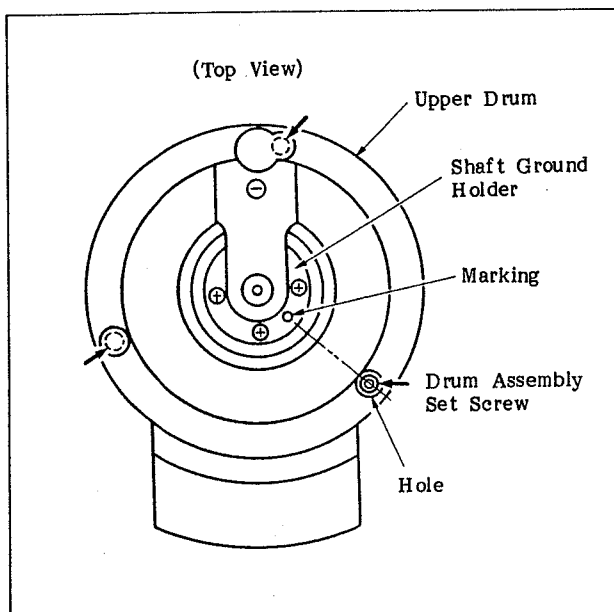

Fig. 6-7 Adjusting the Scanner Position
5. Loosen the screw that holds the drum assembly on the drum slant table by using a hexagon wrench. (Fig. 6-7)
9. Rotate the scanner so that the marking of the shaft ground holder matches the hole of the upper drum. (Fig. 6-7)
10. Tighten the three screws to fasten the drum assembly. (Fig. 6-7)